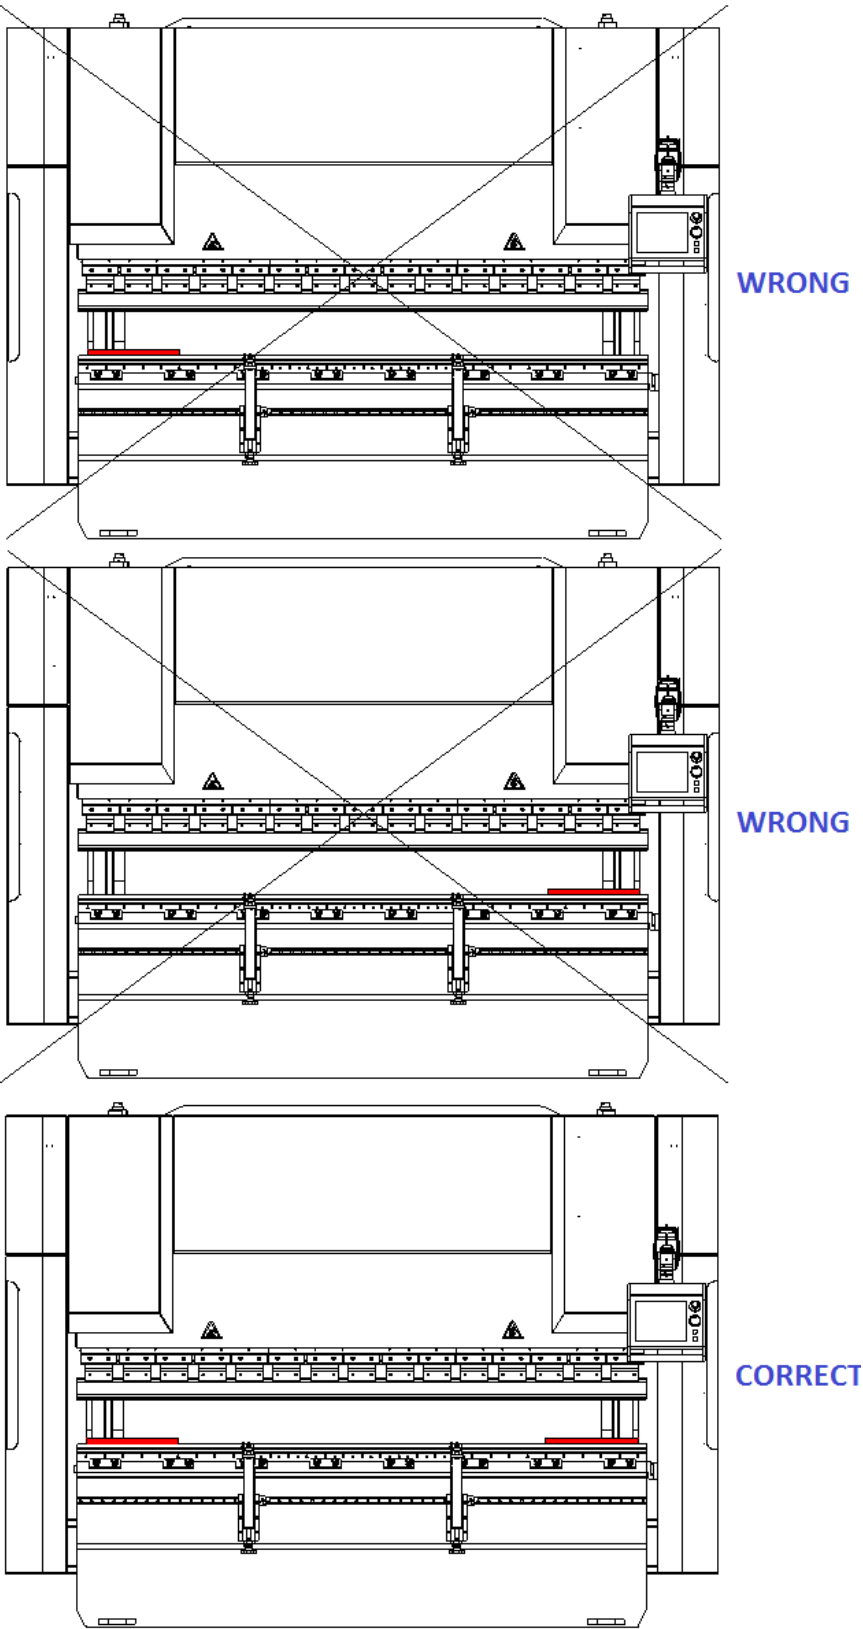

Figure-22: Symmetrical bending.
For achieving short bend, as illustrated below in Figure-22, bend pieces with equal lengths on both sides of the machine.
- The application which is not symmetric during the bending. (See Figure-22)